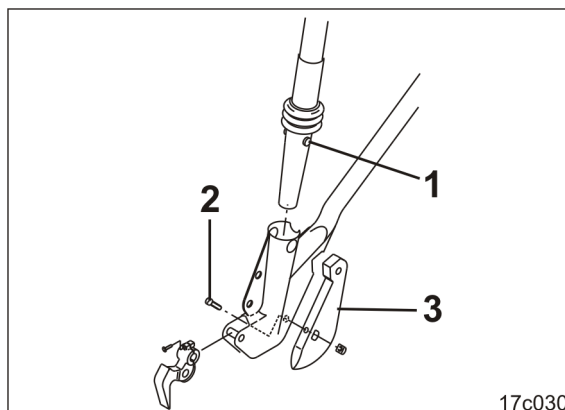

Fig. 234
1. Press in the studs (Fig. 234/1) of the funnel into the coulter body.
3. Remove the bolts (Fig. 234/2) (bolt tightening torque 45 Nm).
4. Lift the share tip (Fig. 234/3) out of its mount.